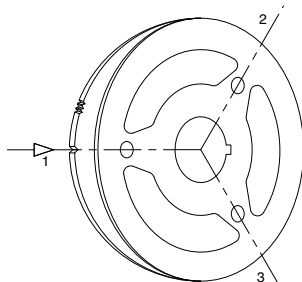

Fig. 19b:
- b. Three cylinder engine (Whisper 10): After adjusting the valves of cylinder 1 turn the crankshaft 240 degrees clockwise from the T.D.C of cylinder 1 to the T.D.C of cylinder 3. Position 2 fig. 19b against the notch. Adjust the valves of cylinder 3. Then turn the crankshaft 240 degrees further clockwise to the T.D.C of cylinder 2 and adjust the valves; position 3 fig. 19b against the notch.